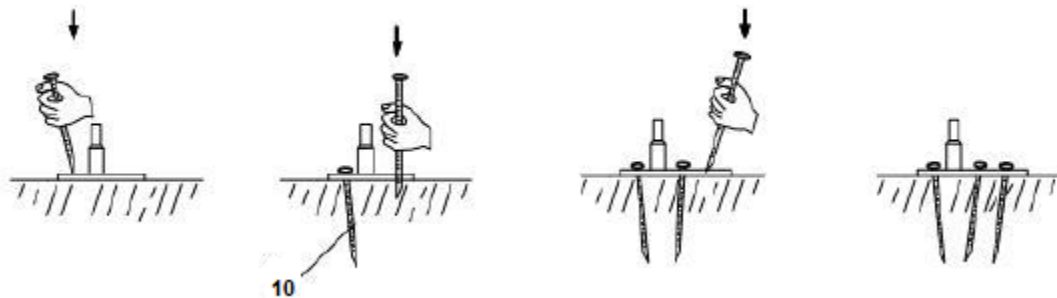

Figure 3
- 3) There are 3 holes each on the base plate for corners and the base plates for the inner side walls, where stake pegs (component code 10) have to be driven into the ground using a hammer. Thus, each base plate is equipped with 3 stake pegs (*Figure 3*) and the base plate is securely grounded.